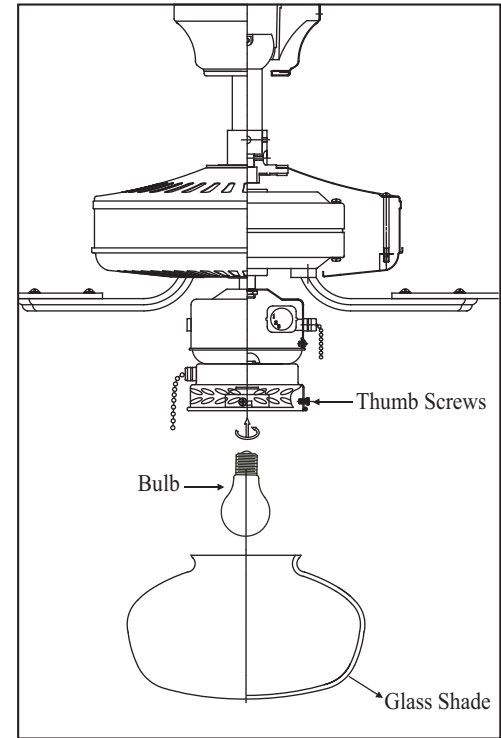

Figure 20
4. Mount the glass shade to the light fixture by unscrewing partway the thumbscrews on the glass holder, insert the glass, then gently tighten the thumbscrews by hand evenly to the glass. **DO NOT OVER TIGHTEN.** (Fig. 20)